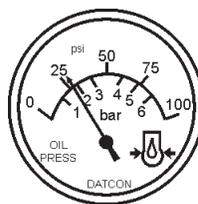

Figure 49. Oil Pressure Gauge
8. The engine oil pressure gauge (Figure 49) will indicate the oil pressure of the engine. Under normal operating conditions the oil pressure is approximately 44 to 73 psi. (303~503 kPa). When starting the genera